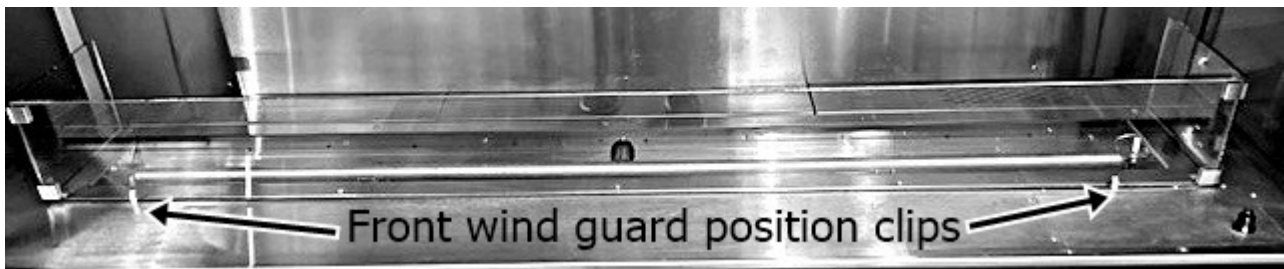

Figure 4
6. After assembling left and right returns, carefully position assembled Wind Guard into Fireplace, placing front piece into two position clips shown in Figure 4.